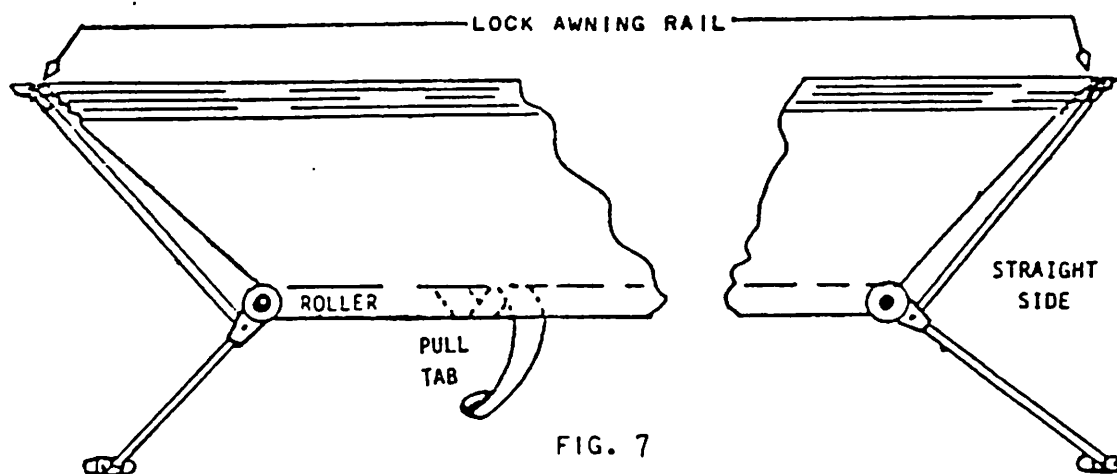

FIG. 7
USE THE PULL TAB TO CONTROL SPEED AND DIRECTION OF THE ROLLER AND SPIRAL THE TAB AS SHOWN IN FIG. 7 TO PREVENT CLOTH BUILD-UP. RELEASE THE TAB WHEN THE ROLLER IS ABOUT 14 INCHES FROM THE COACH, ALLOWING THE AWNING TO SNAP CLOSED.
4. ROLL AWNING AGAINST COACH USING THE PULL TAB TO GUIDE THE AWNING (FIG. 7).